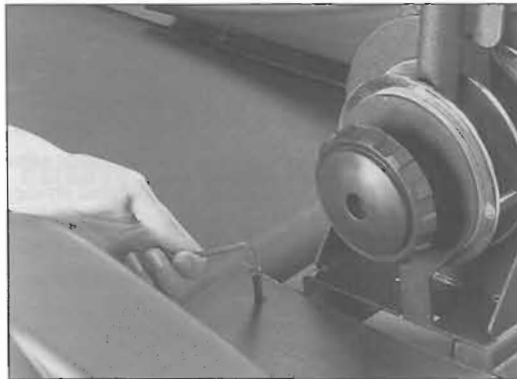

Figure 18
11. Use the 5/32-inch Allen wrench to tighten the four 1/4-inch bolts (Figure 18).